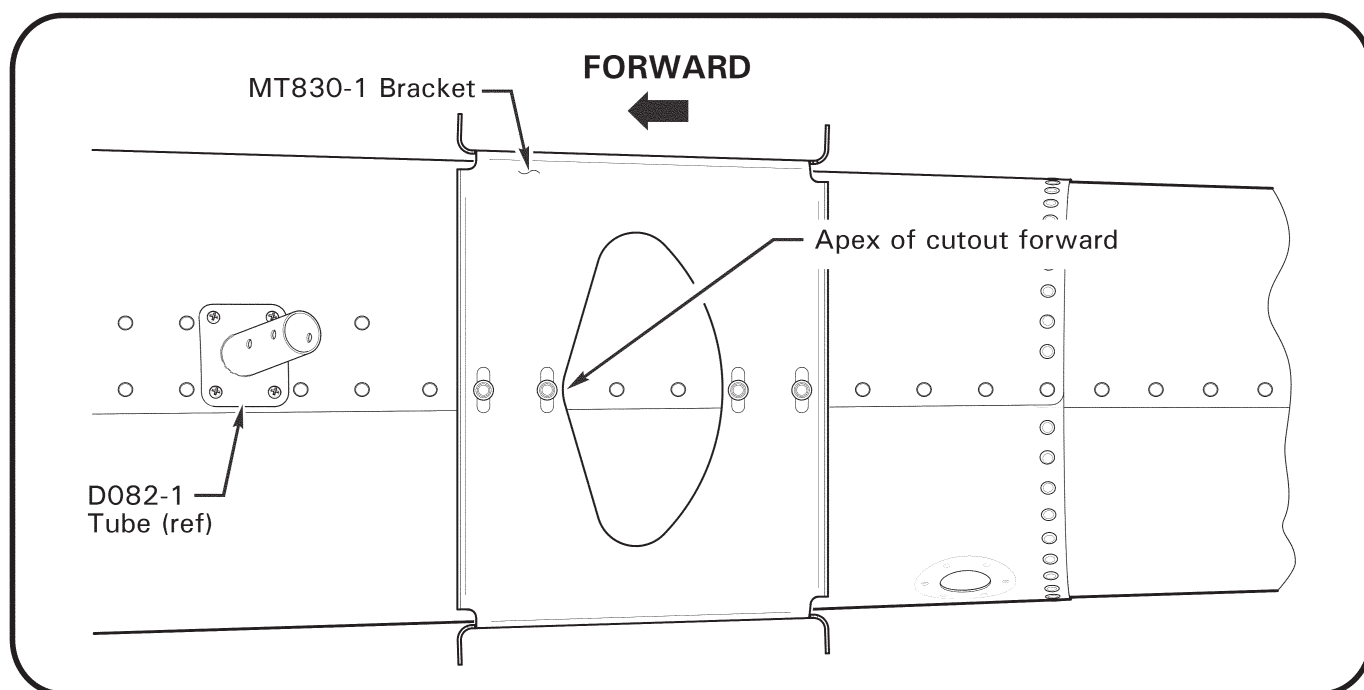

FIGURE 2 Position MT830 bracket
5. Refer to Figures 2 & 3. Place MT830-1 bracket on tailcone, with apex of bottom cut-out pointing forward. Secure bracket to tailcone with clecos at drilled-out rivet holes. Attach MT830-2 cover, wider-end forward, to bracket using clecos.